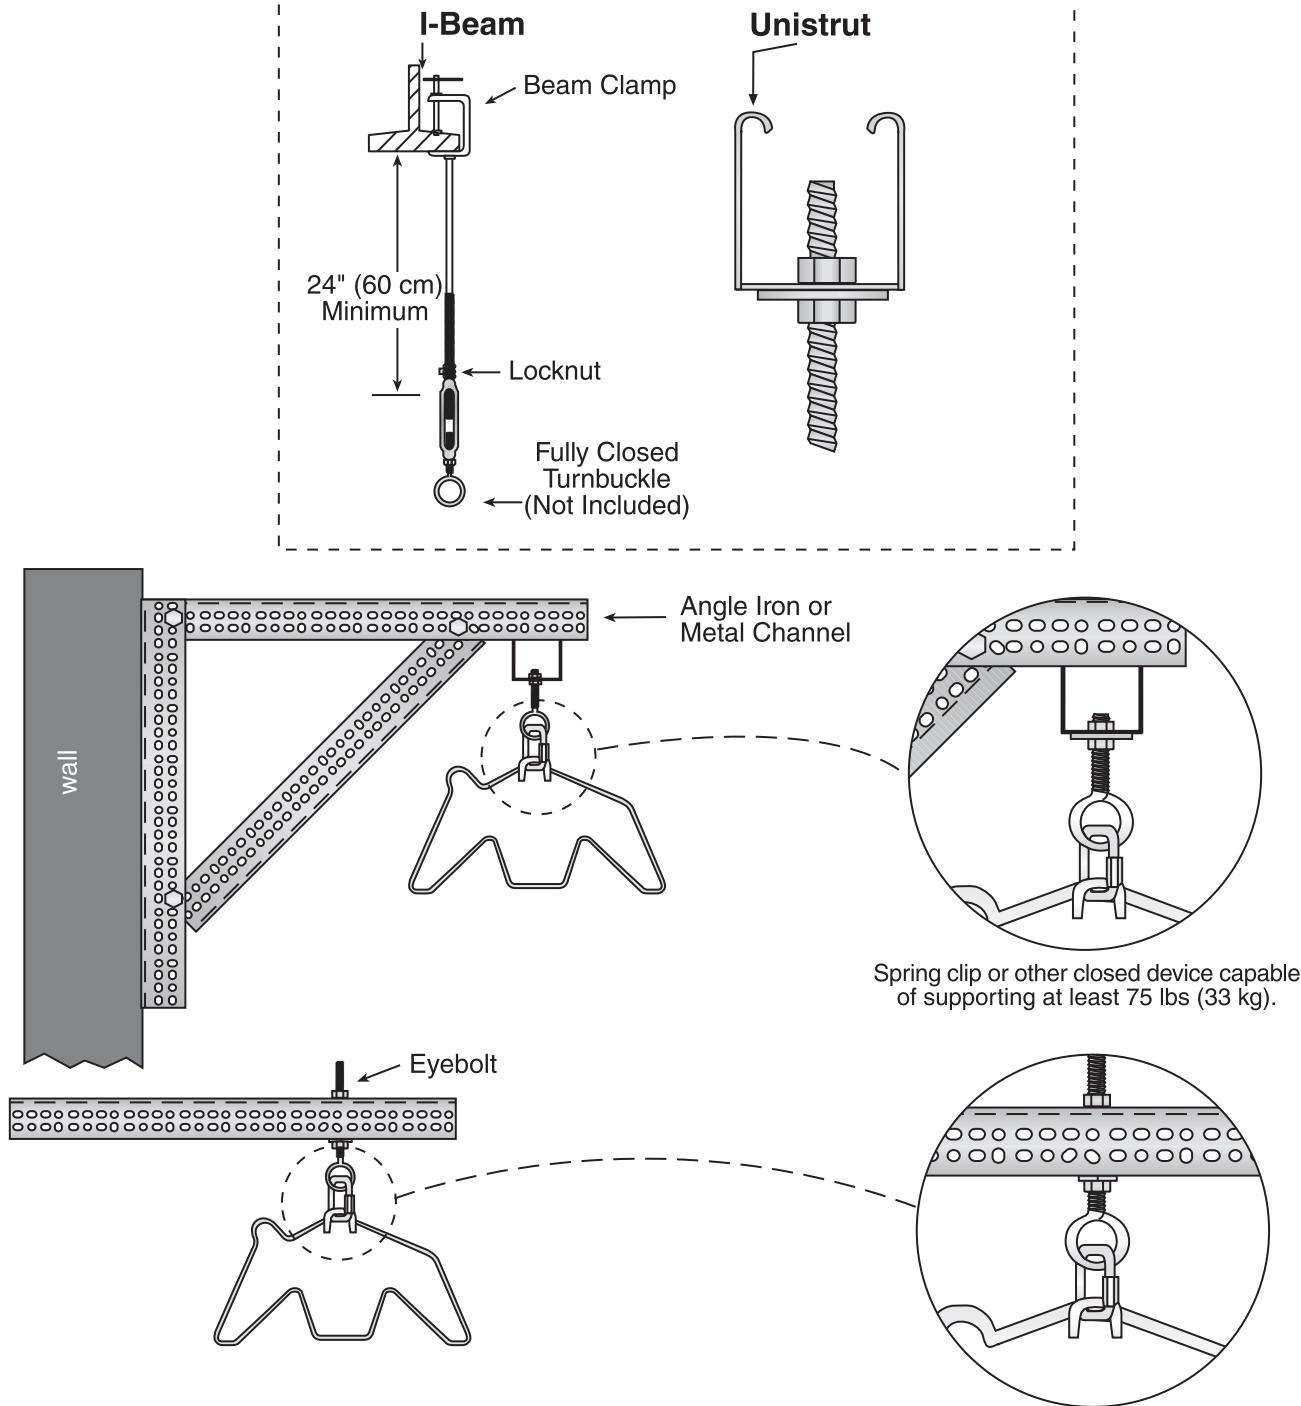

Figure 16. Typical Outdoor Heater Suspension (Model VZH Only)
2. Using hoist, lift, or sufficient personnel to support tube assembly, connect each suspension bracket to each building or structure suspension point using S-hooks in accordance with Figure 15 or Figure 16.